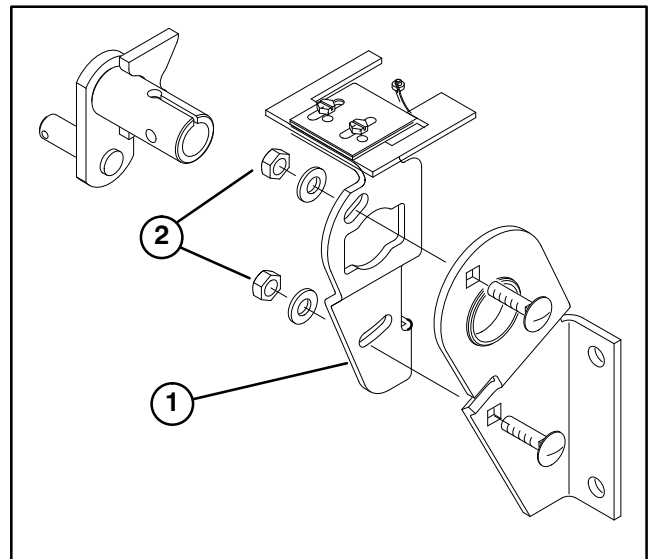

Figure 34
4. Loosen (2) locknuts securing pump plate to mounting plate. This will allow plate to move freely (Fig. 34).
5. Start engine and rotate pump plate (Fig. 34) in either direction until wheel ceases rotation.
6. Stop engine and tighten locknuts to secure pump plate (Fig. 34).